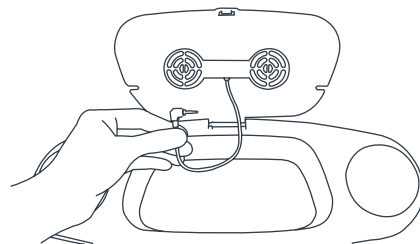

Fig. 10
- 10) •** The parent tray comes with speakers with an MP3 jack inside. The speakers have a wire with a male jack for use with MP3 players so you and your child can listen to music while you stroll. Connect male end of speaker wire into your MP3 player (Fig. 10).